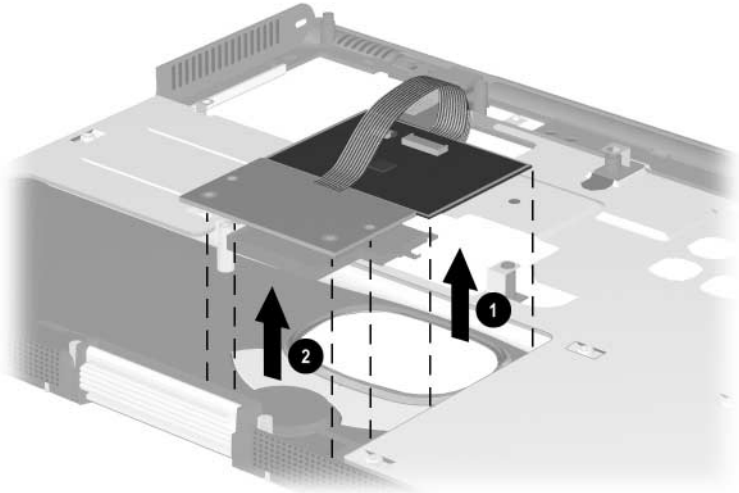

Figure 5-28. Removing the TouchPad and the TouchButton Board
6. Remove the TouchPad ❶ and the TouchButton board ❷ from the top cover (Figure 5-28).